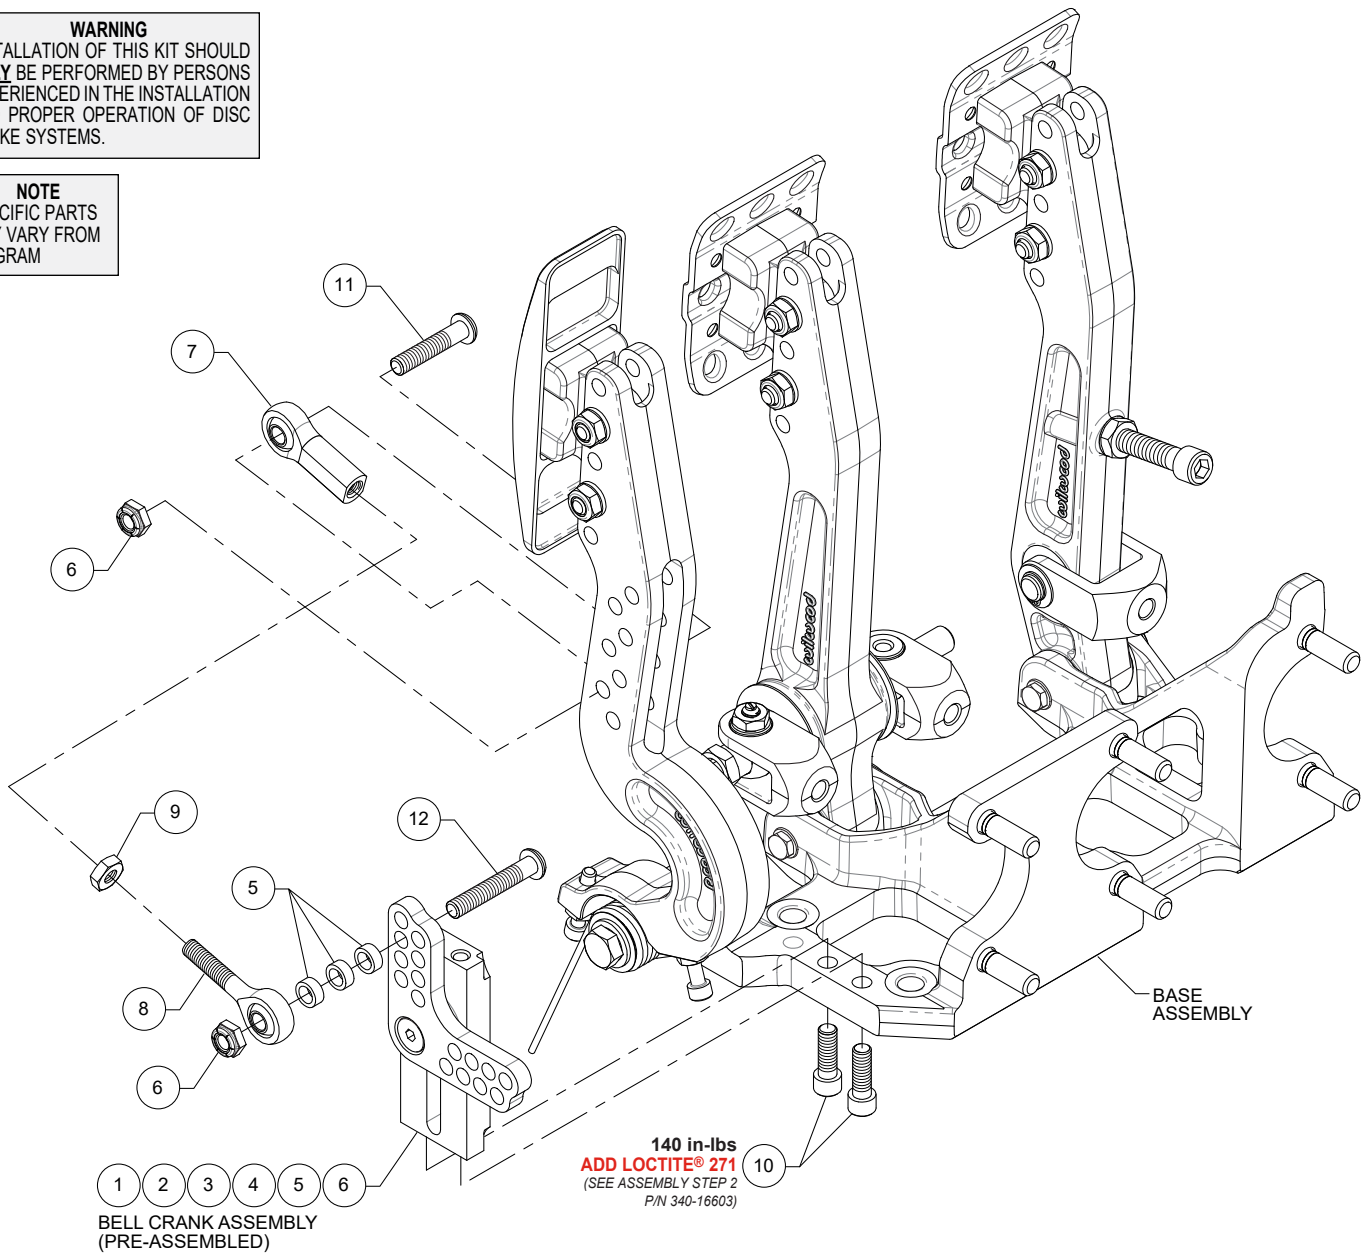

Figure 2. Throttle Linkage Assembly Configuration for Pedal Assembly p/n 340-16603
NOTE: Numbers in parenthesis refer to the parts list and Figure 2 on page 4.
STEP 2 Orient the bell crank assembly as shown in Figure 2 and attach to the pedal base using bolts (10). Apply red *Loctite*[®] 271 to the threads and torque to value shown in Figure 2.
STEP 3 Assemble the connecting rod. Screw jam nut (9) onto male bearing end (8) and then screw the female bearing end (7) onto the male end, Figure 2. Do not tighten jam nut at this time.
STEP 4 Install female bearing end (7) of the connecting rod into throttle pedal using bolt (11), and nut (6), as shown in Figure 2.
STEP 5 Attach the male bearing rod end (8) to the bell crank assembly using bolt (12), three spacers (5), and lock nut (6) as shown in Figure 2. **NOTE:** The bell crank assembly can be set up for a variety of throttle ratios. Final adjustment of the bell crank and connecting rod to be performed after pedal installation in vehicle.